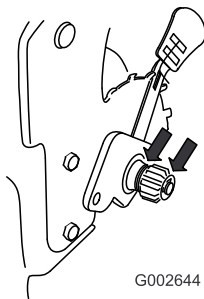

Figure 43
2. Apply a lubricating oil to the inner and outer sides of the gear as shown in Figure 43.